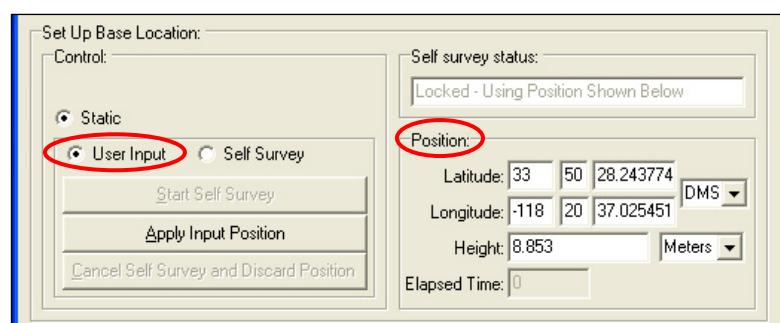

Figure 34: Base Location – User Input
- **User Input (the default):** Manually enter the known surveyed truth position in the *Position* section of the window (see Figure 34). Click the *Apply Input Position* button to save the position in NVRAM.